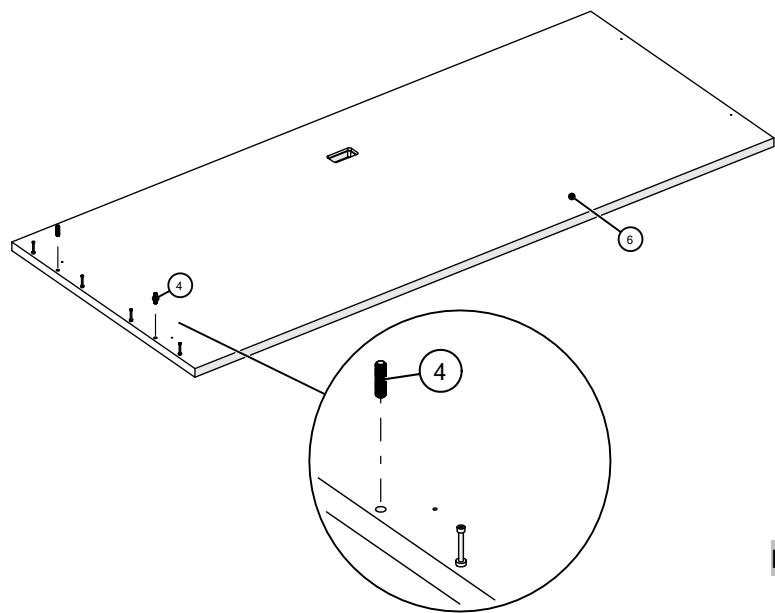

Figure 3
- Insert the Drive-N-Lock Plastic Expansion Dowel into the holes of the surface using a rubber mallet, (Figure 3).